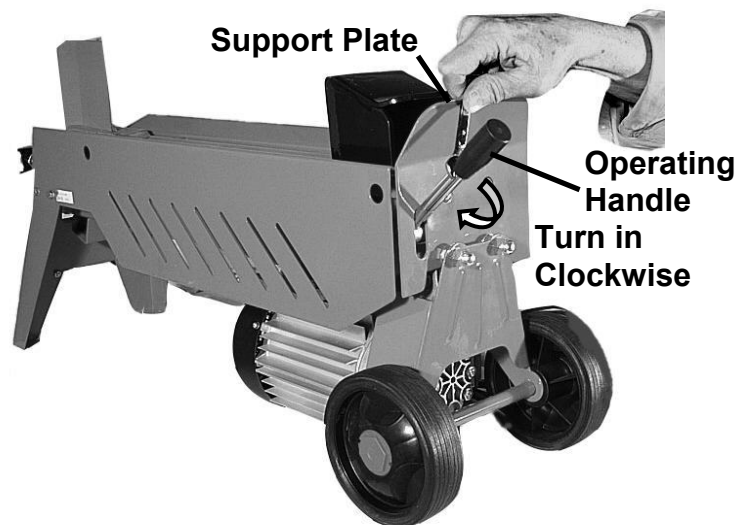

Figure 3
7. Screw the Operating Handle clockwise onto the shaft protruding from the Support Plate and tighten it securely using the 10mm wrench (*Figure 3*).